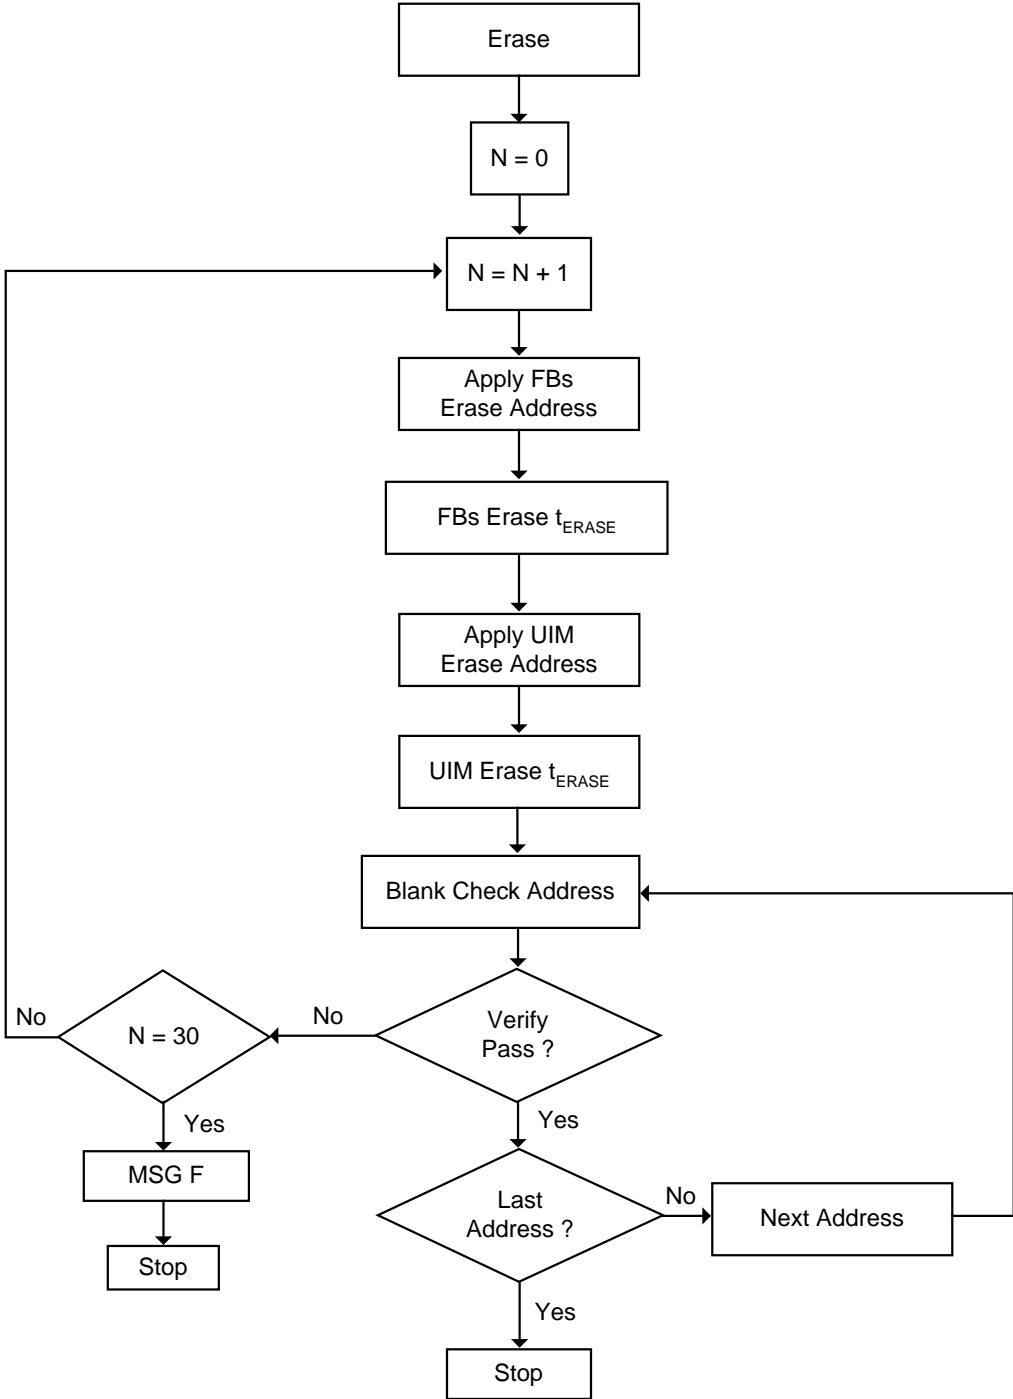

Figure 3. Erase Flow
To erase the device, follow the flow in Figure 3 and the timing according to Figure 9. See the Add.dat file for the Function Block (FB) and Universal Interconnect Matrix (UIM) erase addresses. If the device does not erase on the first attempt, a maximum of 30 retries is permitted.